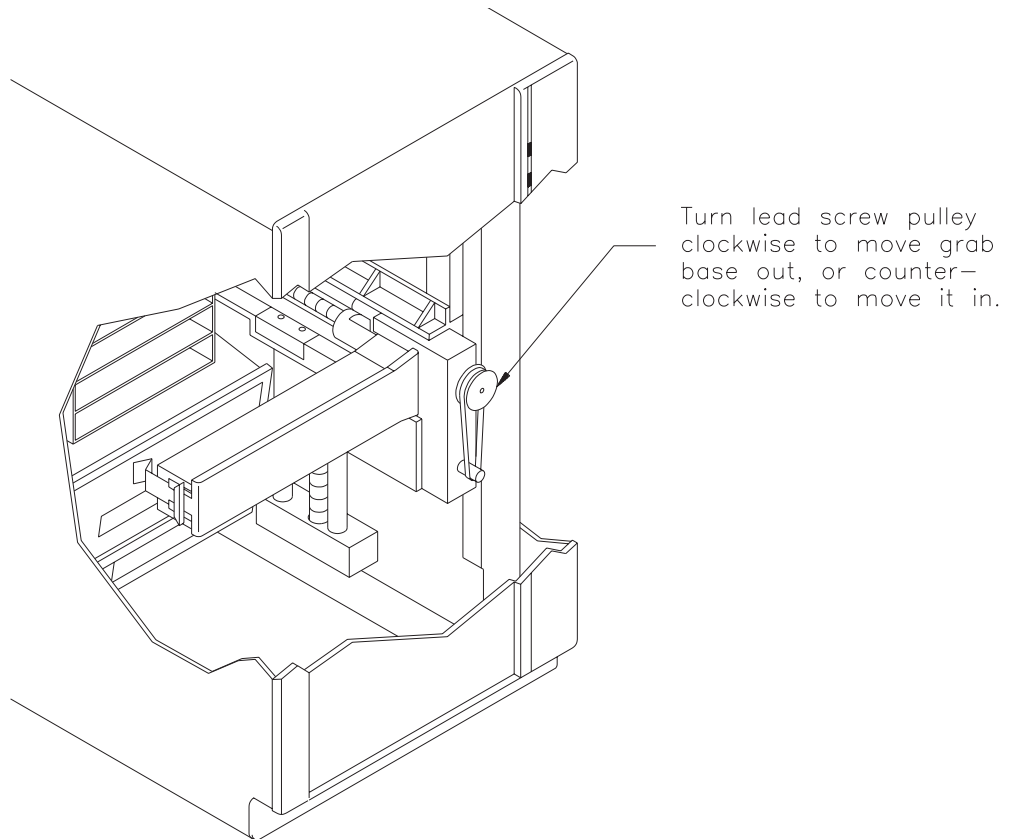

Figure 6-1 Moving the grab base to its shipping position
- a. Move the grab base to its shipping position (all the way in) by rotating the lead screw pulley counterclockwise. The location of the pulley is shown in Figure 6-1.